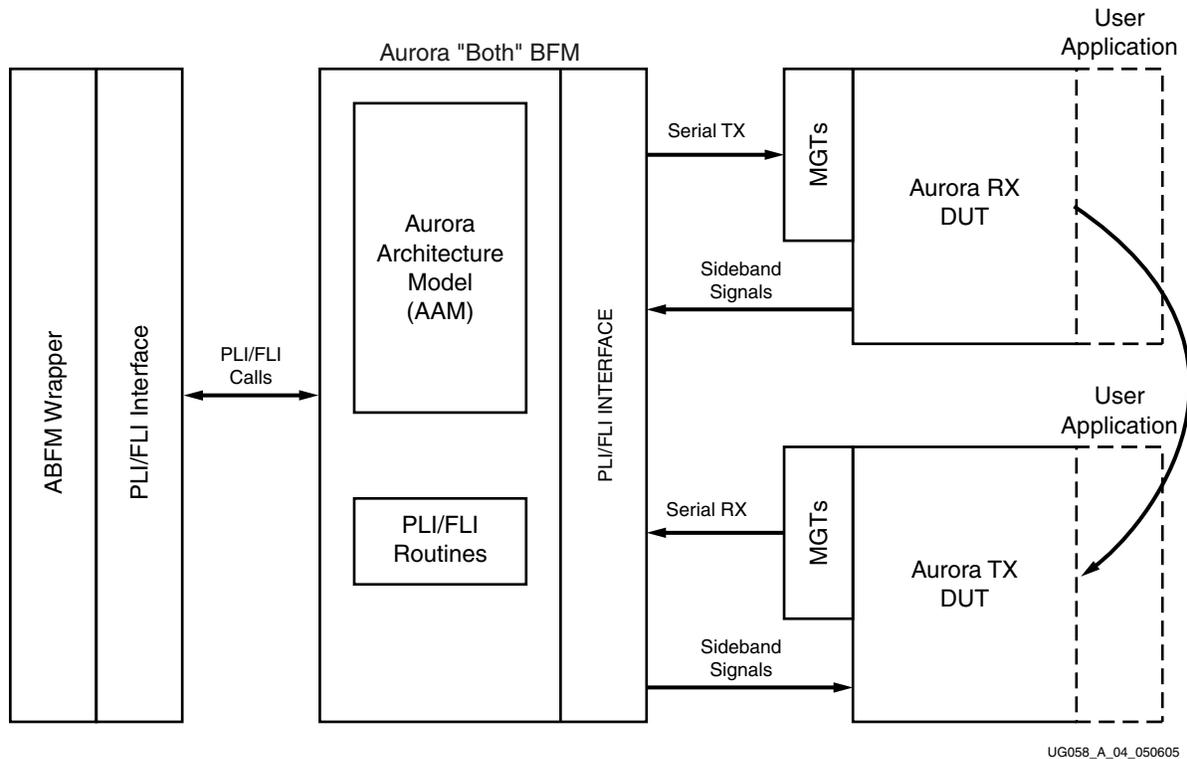

Figure A-4: Aurora 8B/10B Simplex "Both" BFM: Test Environment with Simplex RX and TX DUTs
- **Scenario 3:** A a single TX and RX BFM in "both" mode talking to one simplex TX DUT and one simplex RX DUT (Figure A-4, page 46)
Figure A-4 shows the Aurora 8B/10B simplex "Both" BFM module in the test environment with a simplex RX DUT and a simplex TX DUT.